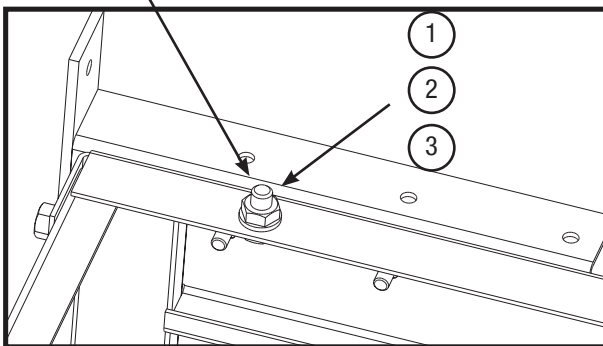

Figure 2 : Frame Mounting Bolts
Step 4: Install stop bars using supplied hole patterns (see Fig.2). To achieve the best position, you may need to drill additional holes in bracket in order to properly position spreader.
Step 5: Now that the spreader is positioned front to back, you will now center it left to right. Looking at the inside front and corner of the lower frame area, you will notice (4) holes in the bottom of the frame. Using a paint pen or similar marking device, mark hole locations.
Step 7: Install and tighten all (4) bolts.